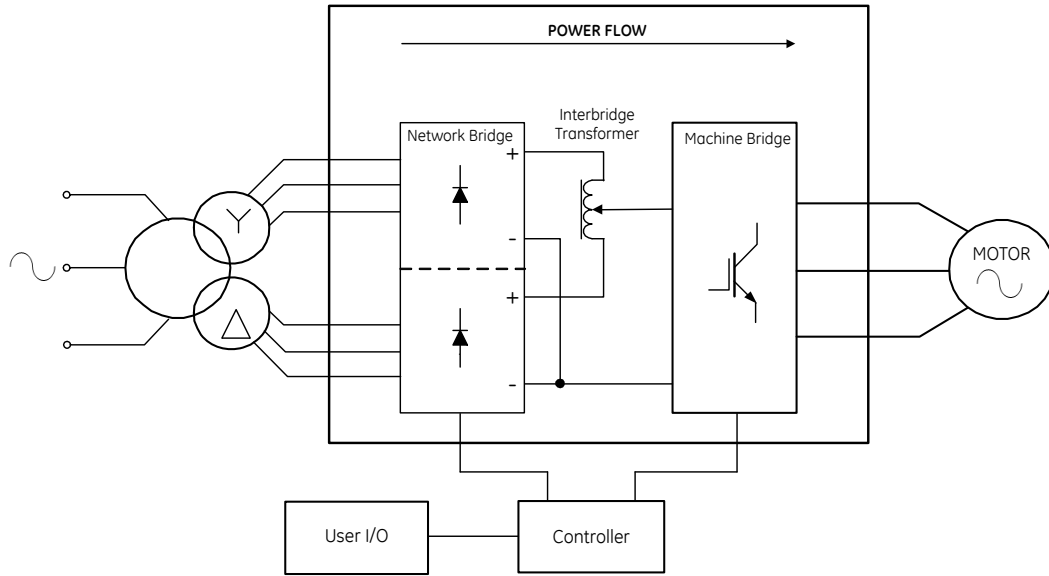
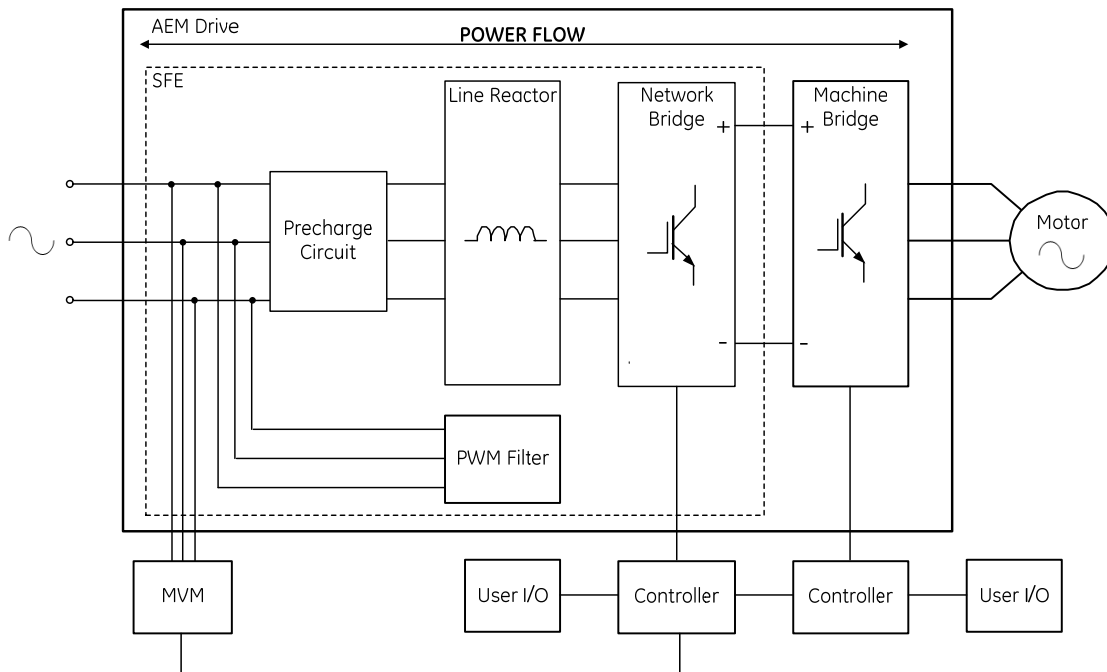

Figure 1-1. – Schematic Diagram of a DFE DELTA System
Figure 1-2. – Schematic Diagram of an AEM DELTA System
Figure 1-1 is a simplified schematic diagram of a DFE system. Figure 1-2 is a simplified schematic diagram of an AEM system.
- A phase shifting transformer is used to produce the additional 3 phases which are phase shifted by  $30^\circ$  as shown in Figure 1-1. These two sets of three phase supplies are rectified by two rectifier bridges.